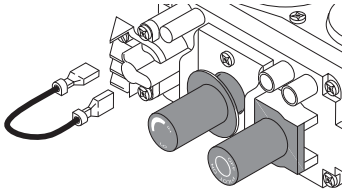

Figure 28 - Disconnecting Wires From Control Valve
1. Disconnect wires from the control valve (see Figure 28).
1. Remove jumper wire from control valve (see Figure 28).
1. Remove jumper wire from control valve (see Figure 28, page 19).